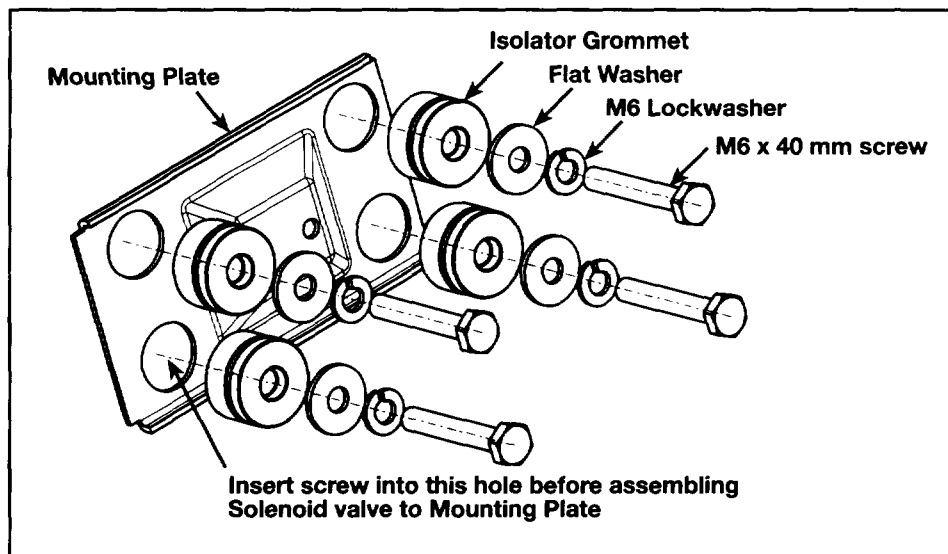

FIG. 1
5. Note the orientation of the mounting plate. The distance from the end of the plate to the raised area in the center of the plate is greater on one side than the other. The side with the greater distance is the left side of the plate when the raised portion is facing toward you (when installed, this side points toward the passenger side of the vehicle). Holding the plate in this orientation, insert one M6 x 40 mm screw, washer, and lockwasher into the isolator grommet in the lower left corner of the plate. See Figure 1 for correct orientation of these attaching parts.
7. Attach the mounting plate/solenoid assembly to the vehicle plenum using the M6 x 40 mm screws, washers, and lockwashers. Tighten the mounting screws securely. See Figure 1 for correct orientation of the attaching parts.